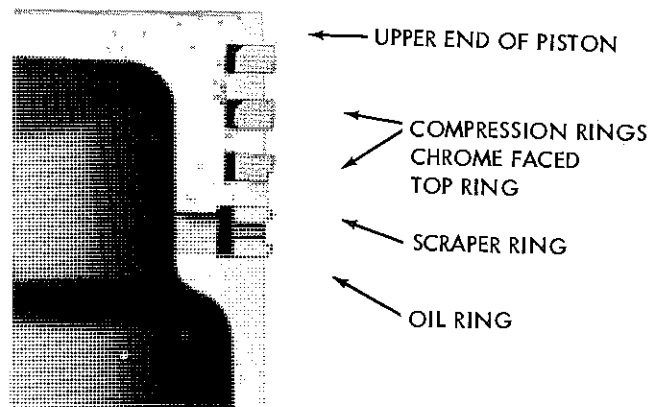

Figure IV-46 Piston Ring Installation.
H. VALVE CLEARANCE ADJUSTMENT (figure IV-46).